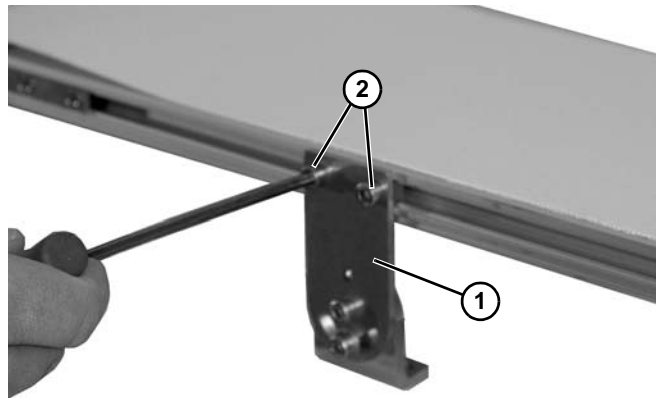

Figure 20
8. Remove two screws (**Figure 20, item 2**) and remove mounting brackets (**Figure 20, item 1**) from one side of conveyor. (Reverse steps 3 & 4 of “Install Mounting Brackets” section beginning on page 8.)